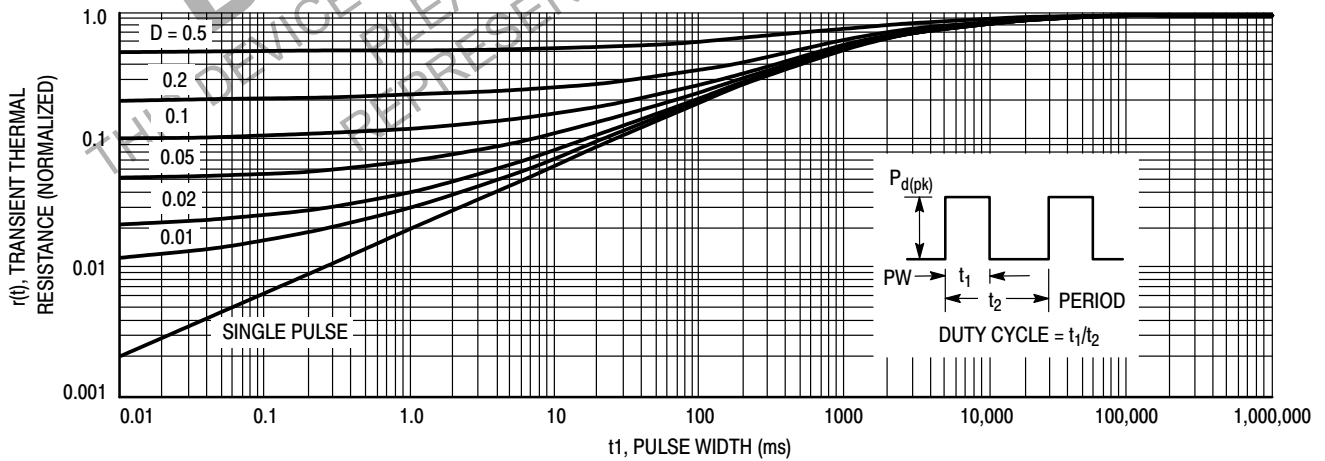

Figure 12. Transient Thermal Response for MDC3105LT1
Figure 12 of the MDC3105 data sheet plots its transient thermal resistance,  $r(t)$  as a function of pulse width in ms for various pulse train duty cycles as well as for a single pulse and illustrates this effect. For short pulse widths near the left side of the chart,  $r(t)$ , the factor, by which the continuous duty thermal resistance is multiplied to determine how much the peak power rating can be increased above the average power rating, approaches the duty cycle of the pulse train, which is the expected value. However, as the pulse width is increased, that factor eventually approaches 1.0 for all duty cycles indicating that the pulse width is sufficiently long to appear as a continuous duty condition to this device. For the MDC3105LT1, this pulse width is about 100 seconds. At this and larger pulse widths, the peak power dissipation capability is the same as the continuous duty power capability.
To use Figure 12 to determine the peak power rating for a specific application, enter the chart with the worst case pulse condition, that is the max pulse width and max duty cycle and determine the worst case  $r(t)$  for your application. Then calculate the peak power dissipation allowed by using the equation,
Thus for a 20% duty cycle and a PW = 40 ms, Figure 12 yields  $r(t) = 0.3$  and when entered in the above equation, the max allowable  $Pd(pk) = 390$  mW for a max  $T_A = 85^{\circ}C$ .
2. For pulsed operation, use the Transient Thermal Response of Figure 12 and the instructions with it to determine the maximum limit on transistor power dissipation for the desired duty cycle and temperature range.